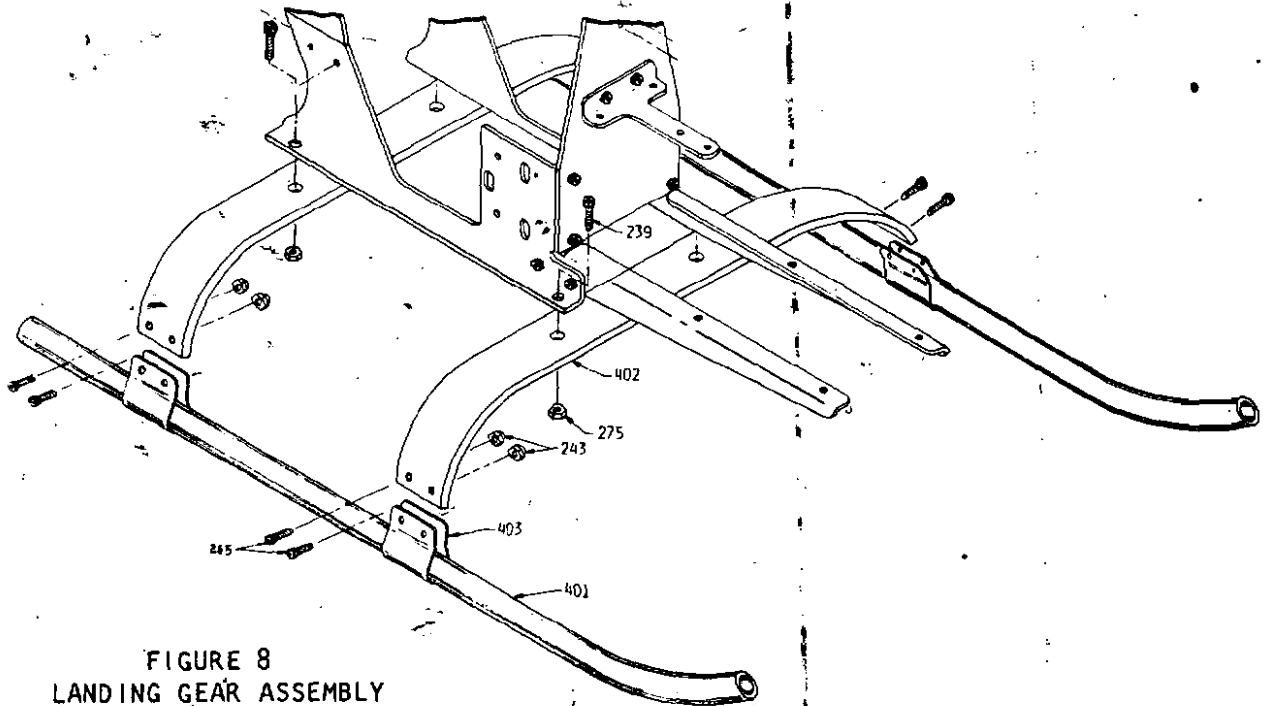

FIGURE 8
STEP 8 LANDING GEAR ASSEMBLY - see Figure 8